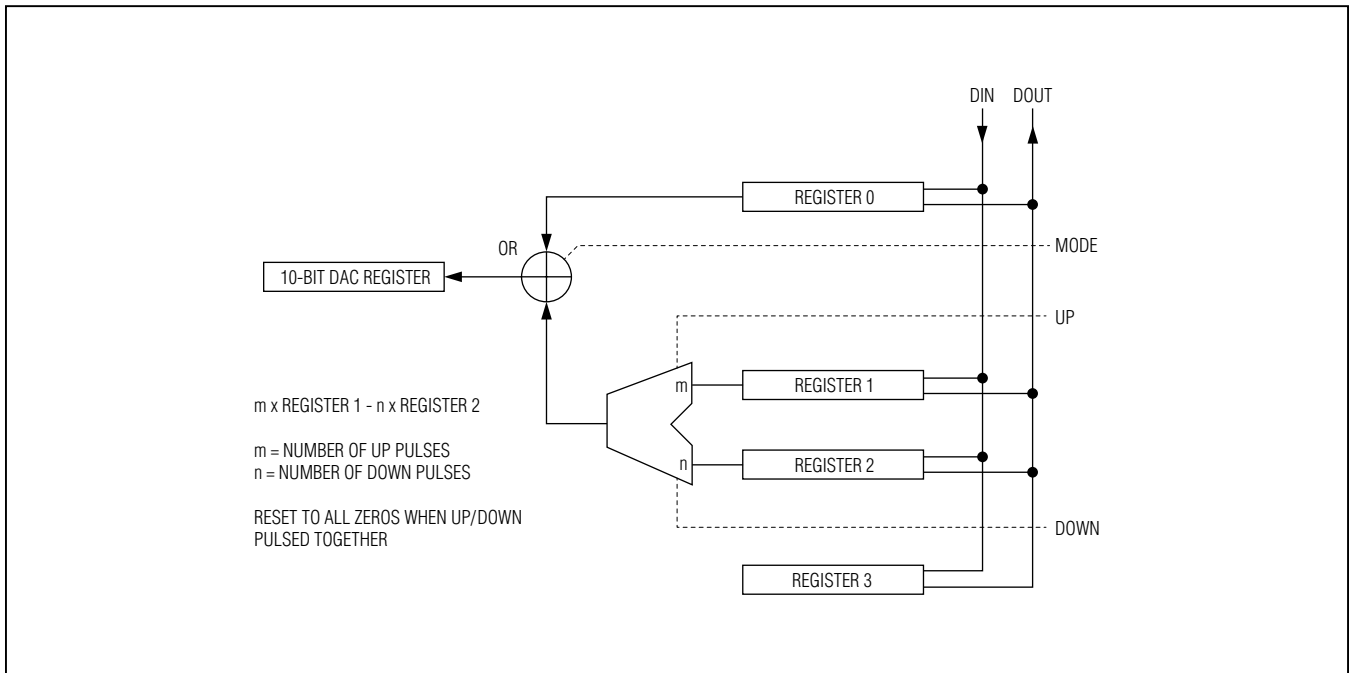
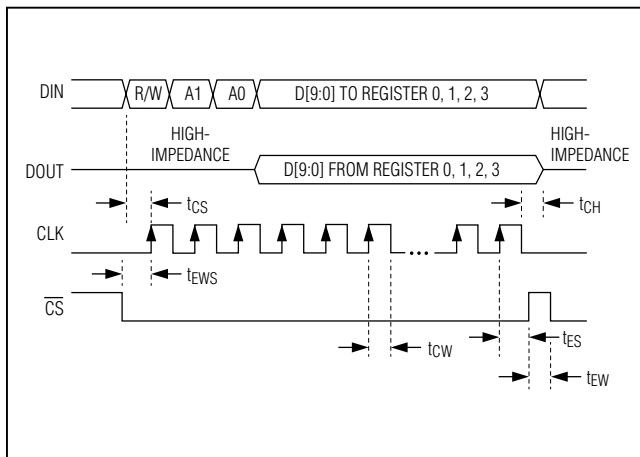
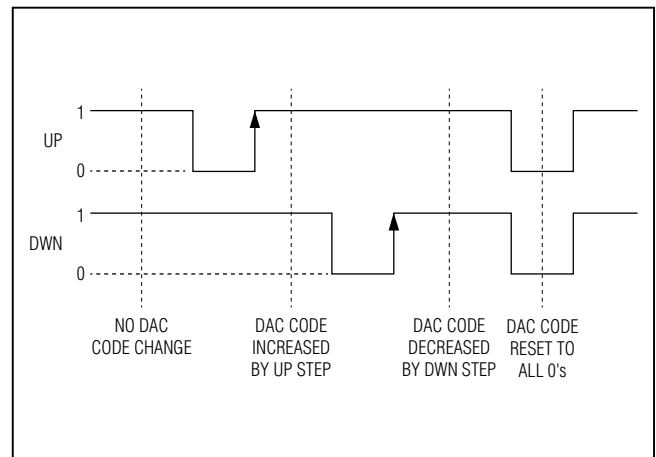

Figure 1. Register Configuration Diagram
Figure 2. SPI Timing Diagram
Figure 3. UP/DWN Control Diagram (MODE = 1)
Figure 1 shows the configuration of the internal registers of the device and Figure 2 shows the timing of the SPI bus. Register 0 sets the DAC code to the desired value, register 1 selects the step-up code, and register 2 selects the step-down code.
After powering up the device, UP and DWN should both be set to 0 to reset the m and n counters to 0. This results in a 10-bit all 0 code out of the mathematical block in Figure 1, and applied to the 10-bit DAC register that drives the DAC. To increase (decrease) the code using the UP (DWN) pin, the DWN (UP) pin must be high and the UP (DWN) pin should be pulsed low to high. The device is designed to produce no wraparounds when using UP and DWN stepping so that the DAC code maxes out at 1023 or goes no lower than 0. See Figure 3 for the UP and DWN control operation.
The device can be controlled with a 4-wire, SPI-compatible serial interface. Figure 2 shows a timing diagram for the interface. In the write mode, a 13-bit word is loaded into the device through the DIN pin, with $\overline{\text{CS}}$ set low. The first bit of the word in the write mode is 0, and the next two bits select the register to be written to (Table 2). The next 10 bits contain the data to be written to the selected register. After the 13 bits are shifted in, a low-to-high $\overline{\text{CS}}$ command is applied and this latches the 10 bits into the selected register. The entire write command is ignored if $\overline{\text{CS}}$ is pulsed low to high before the last data bit is successfully captured.
| Logic 0 pulse | Logic 1 | Increase the DAC code* by the amount located in register 1. UP is pulsed from high to low to high (see Figure 3). |
| Logic 1 | Logic 0 pulse | Decrease the DAC code* by the amount located in register 2. DWN is pulsed from high to low to high (see Figure 3). |